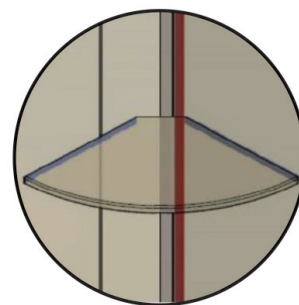

FIG 18.
- After 24-48 hours remove stabiliser blocks (FIG 18).